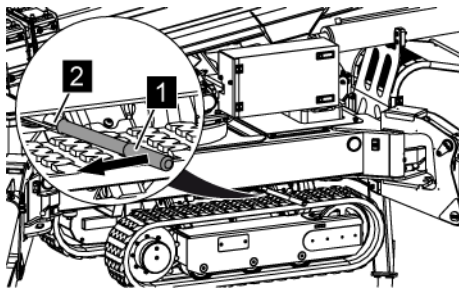

Fig. 141: Inserting the hand pump lever
5. → Connect the hand pump lever (Fig. 141/1) to the locking mechanism (Fig. 141/2).
6. → Unfasten the locking mechanism by pushing the hand pump lever (Fig. 141/1) in the direction of the arrow.